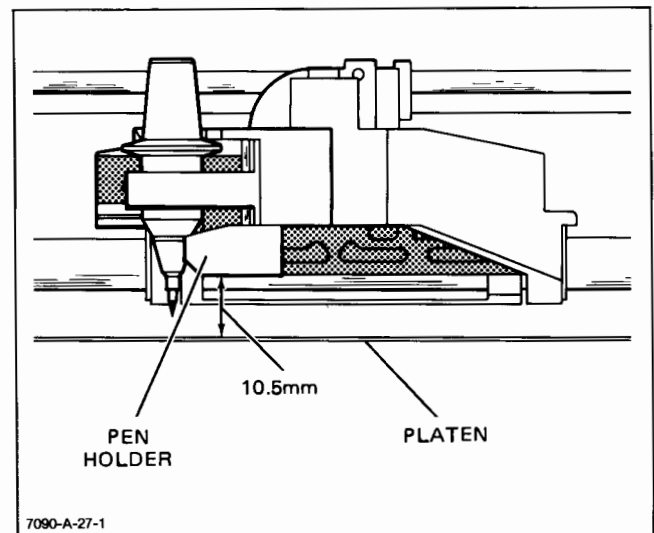

Figure 3-2. Measuring Pen Height
- Using the 100 mm ruler, measure the distance from the platen to bottom of pen holder. It should be 10.5 mm. See Figure 3-2.